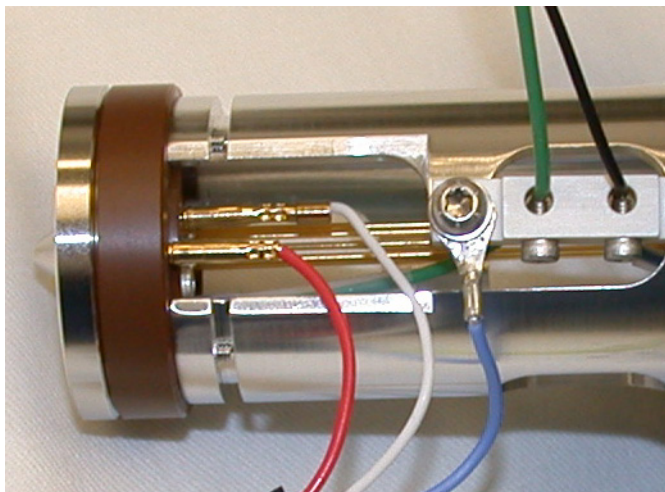

Figure 73 Lens 1 and Lens 2 wires
- b** Disconnect wiring harness and connections (Figure 73). The red wire is for **lens 2** and the **white ion focus wire** is for **lens 1**.